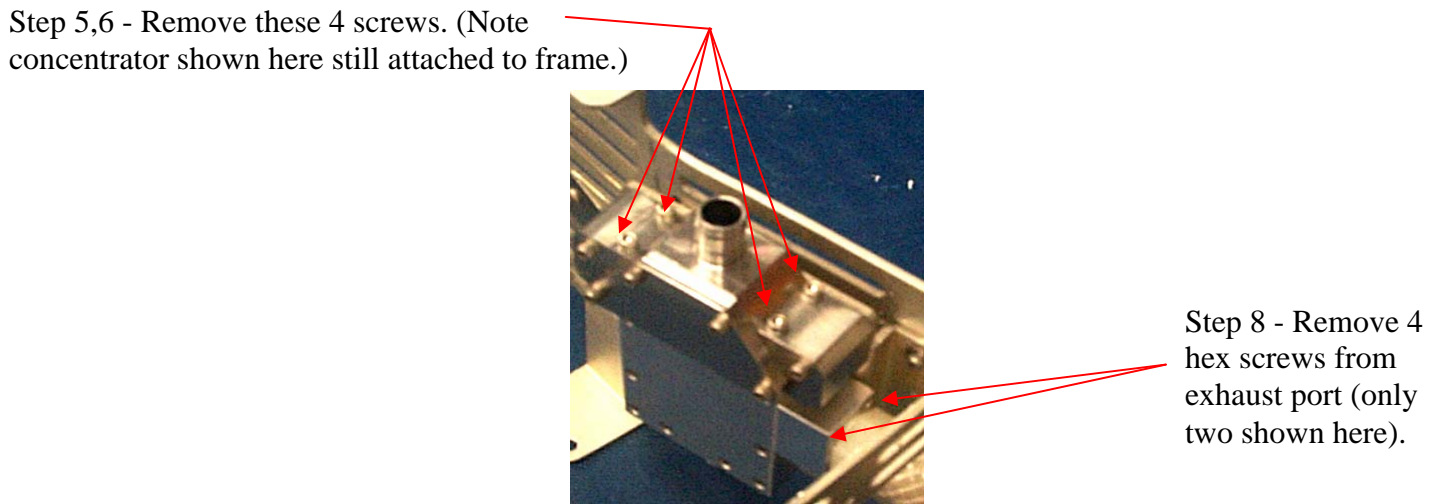

FIGURE 28. Concentrator Cleaning
5. Pull the concentrator and adapter away from the mounting plate and turn it enough to allow for access to the four (4) hex cap screws that secure the intake adapter to the top of the concentrator (Figure 28).
6. Remove the four (4) hex cap screws and the adapter (Figure 28).
8. Remove the four hex screws that secure the exhaust port to the main body of the concentrator and carefully remove the exhaust port (Figure 28). Take care not to damage or misplace the O-ring.